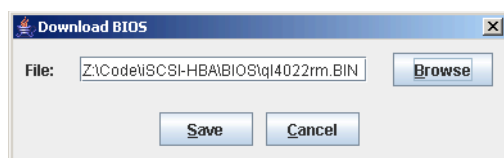

Figure 21-26 SANsurfer - Download BIOS
4. In HBA Utilities on the HBA options tab, click **Select BIOS to Download**. Select the adapter BIOS update file from its extracted location in step 2 on page 499 and click **Save**. See Figure 21-26.